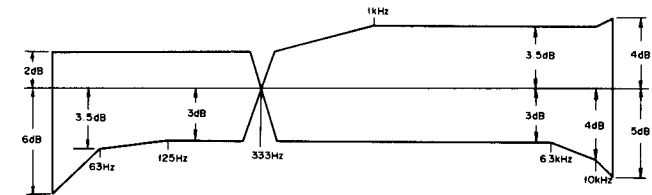

Fig. 5-16 Frequency response
6. As listed in the specifications in Fig. 5-16 check to see that performance meets specifications.